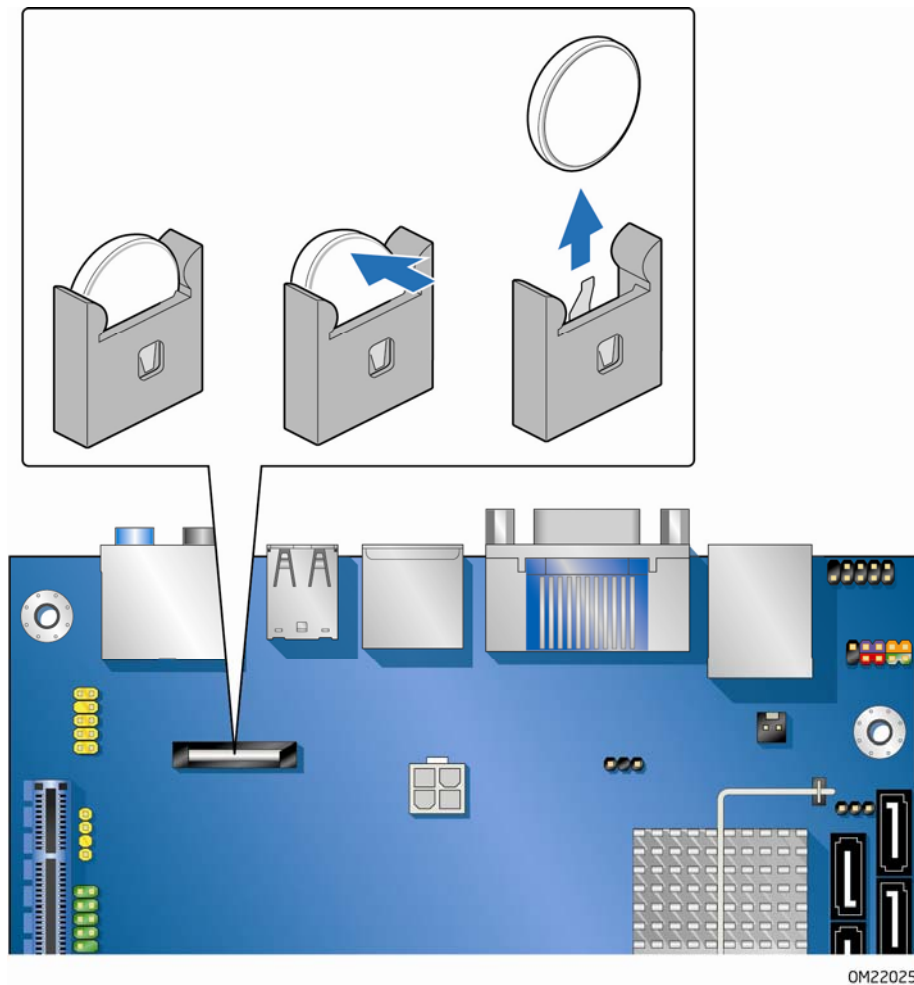

Figure 25. Removing the Battery
When the voltage drops below a certain level, the BIOS Setup program settings stored in CMOS RAM (for example, the date and time) might not be accurate. Replace the battery with an equivalent one. Figure 25 on page 58 shows the location of the battery.
4. Locate the battery on the board (see Figure 25).